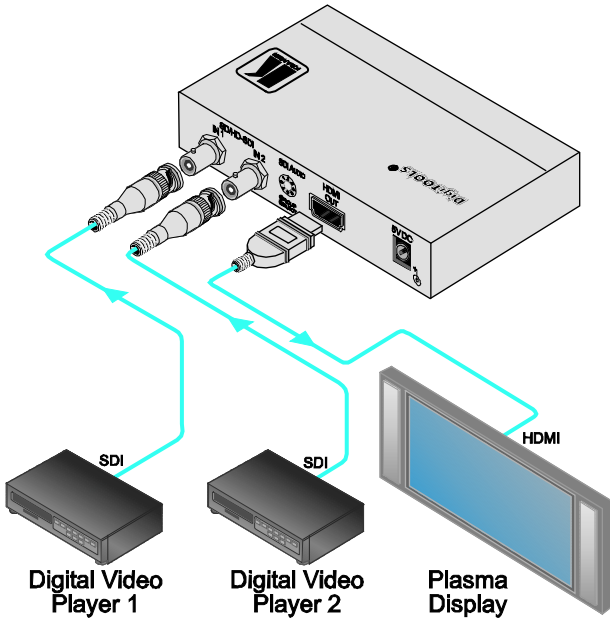

Figure 2: Connecting the FC-321 SD/HD-SDI to HDMI Converter/Switcher
To connect the **FC-321**, as the example in *Figure 2* illustrates, do the following¹:
5. Connect the 5V DC power adapter to the power socket and connect the adapter to the mains electricity (not illustrated in *Figure 2*).